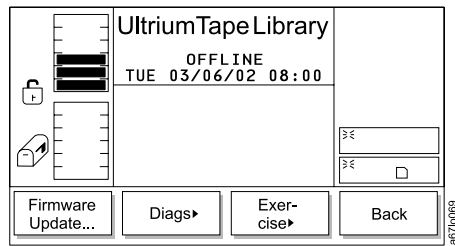

Figure 322. Library Submenu
3. Press the button below the **Library** softkey. The Library Submenu displays (see Figure 322).